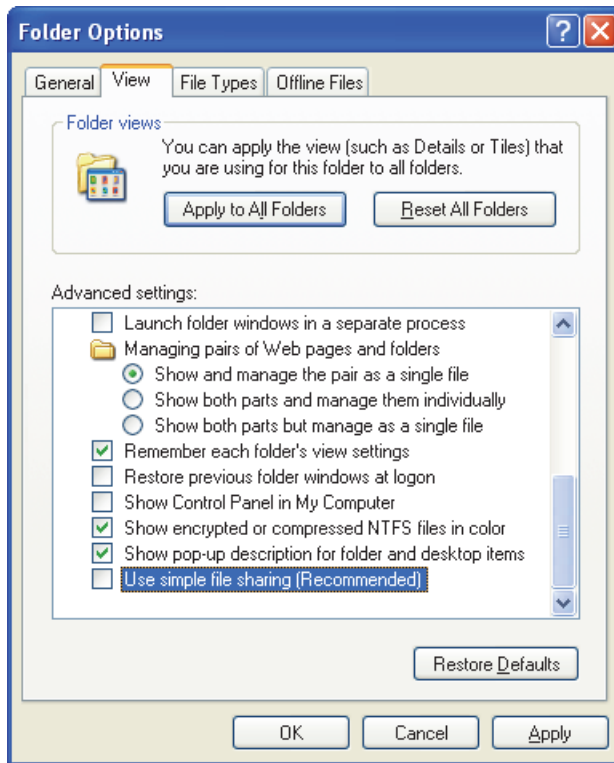

Figure 14-9 The Folder Options dialog box (Windows XP)
The **Folder Options** dialog box appears (see Figure 14-9 on page 303).
- d) Clear the **Use simple file sharing** check box (see Figure 14-9 on page 303).